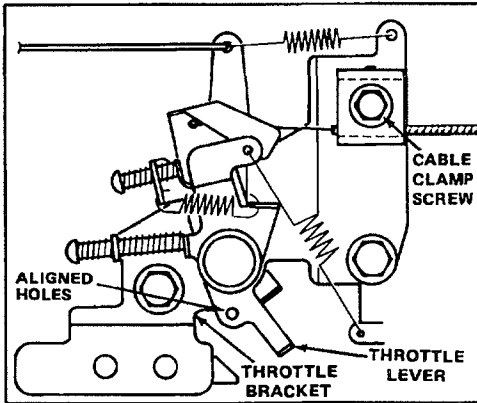

Figure 16
4. Loosen cable clamp screw until throttle cable slides (Fig. 16). Align holes in throttle lever and throttle bracket. Pull throttle cable slightly to remove any slack and tighten cable clamp screw to lock adjustment in place.